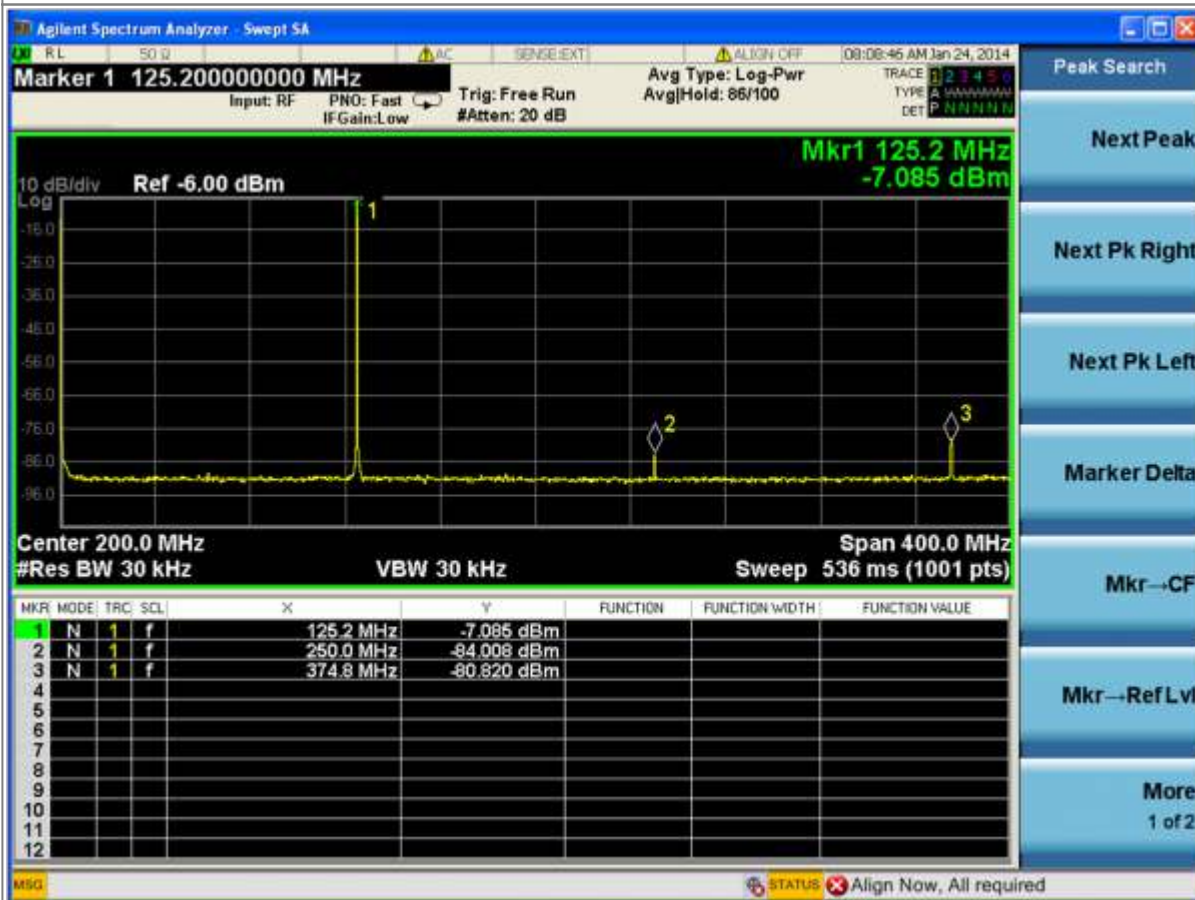

Figure 8. SPI Setting for using NCO
2. The DAC outputs will shift up to 125MHz (Sum on input and the NCO freq shift) See Figure 8.